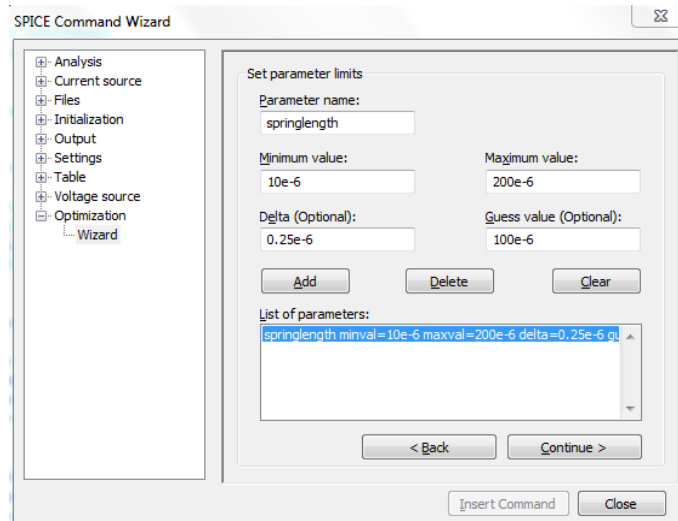

Figure 78: Customizing the parameters limits
- ☑ Set the **Parameter name** to **springlength**, **Minimum value** to **10e-6**, **Maximum value** to **200e-6**, **Delta (Optional)** to **0.25e-6** and **Guess value (Optional)** to **100e-6** (Figure 78).